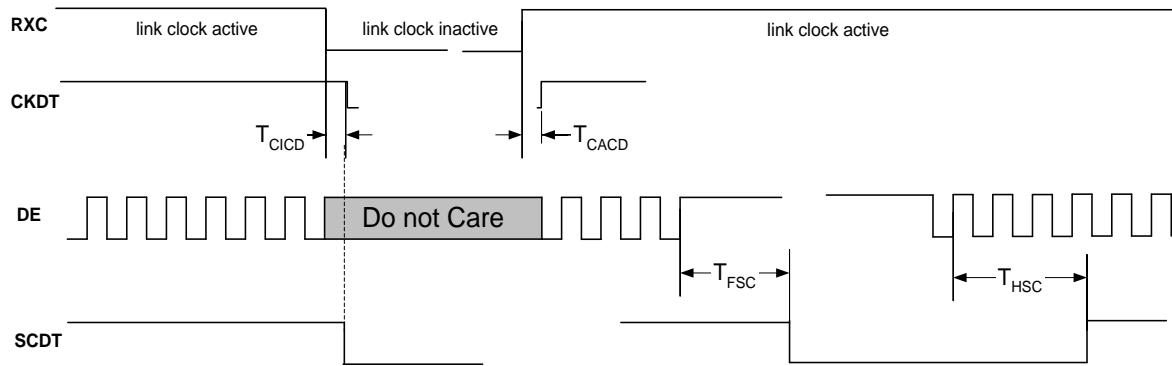

Figure 4.3. SCDT and CKDT Timing from DE or RXC Inactive/Active
1. The SCDT shown in Figure 4.3 is a register bit. SCDT remains HIGH if DE is stuck in LOW while RXC remains active, but SCDT changes to LOW if DE is stuck HIGH while RXC remains active.
2. The CKDT shown in Figure 4.3 is a register bit. CKDT changes to LOW whenever RXC stops, and changes to HIGH when RXC starts. SCDT changes to LOW when CKDT changes to LOW.